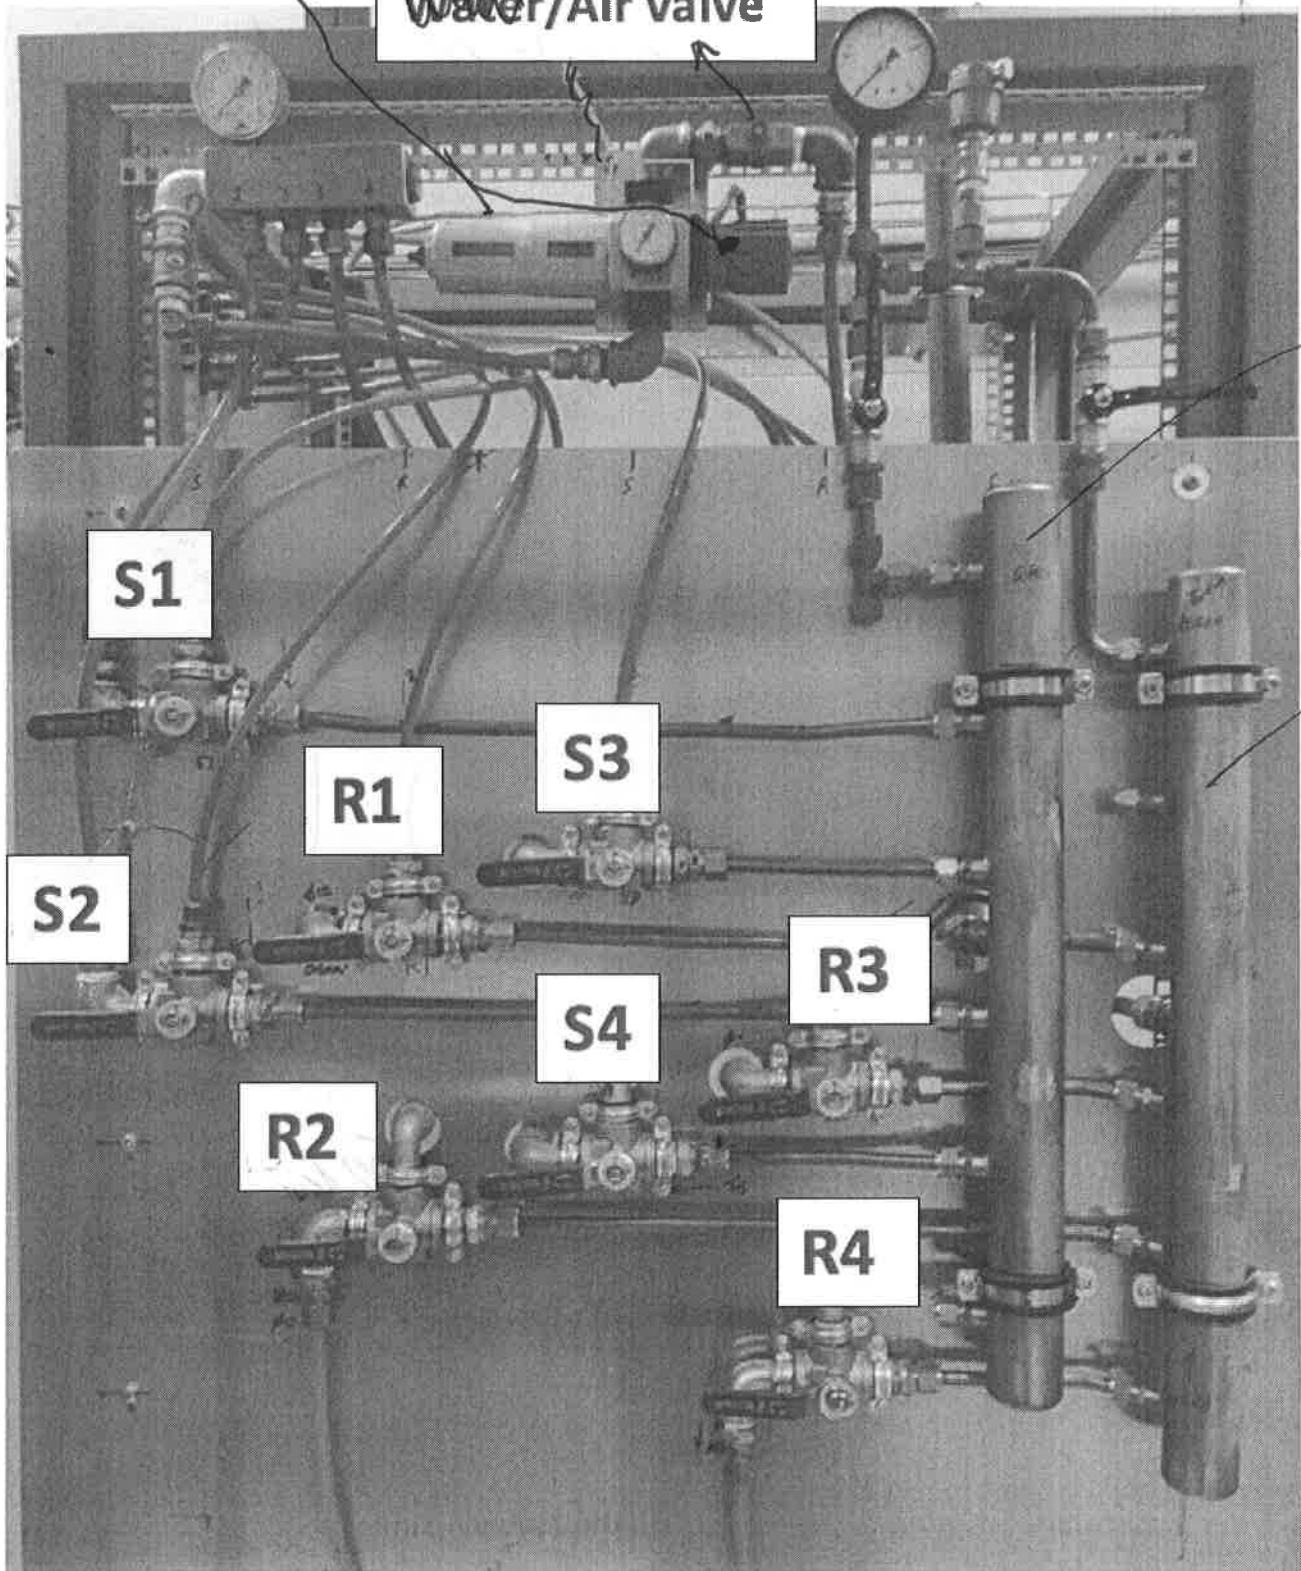

Figure 3
This unit is responsible for distributing the water in 4 supply channels to the chambers and collect the return water through 4 return channels to chiller again, shown in Figure 3
- We have 4 supply and 4 return lines as shown in Figure 3. As example; gas pipe from line 1 supply is connected to the chamber and the return line is connected to return line 1 and it is the same for the rest 3 channels. *this repeated for the 3 other channels.*
- You can find the channel names for supply and return lines on figure 3
5. All the ~~switches~~ ^{valves} in the panel should be in the direction shown in Figure 3, this direction means that the water will flow. ^{is 2} ^{oriented horizontally} ^{after the chiller} ^{as shown}
The air line is connected to the system from the black valve (Water/Air valve) shown in Figure 3.
1. Rotate the black valve (Water/Air valve) shown in Figure 3 to be in vertical position shown in Figure ³ *corresponding to be purged*